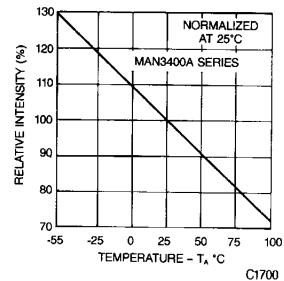

Fig. 3. Relative Luminous Intensity
- The curve in Figures 3, 6, 9, and 12 is normalized to the brightness at 25°C to indicate the relative Luminous Intensity over the operating temperature range.